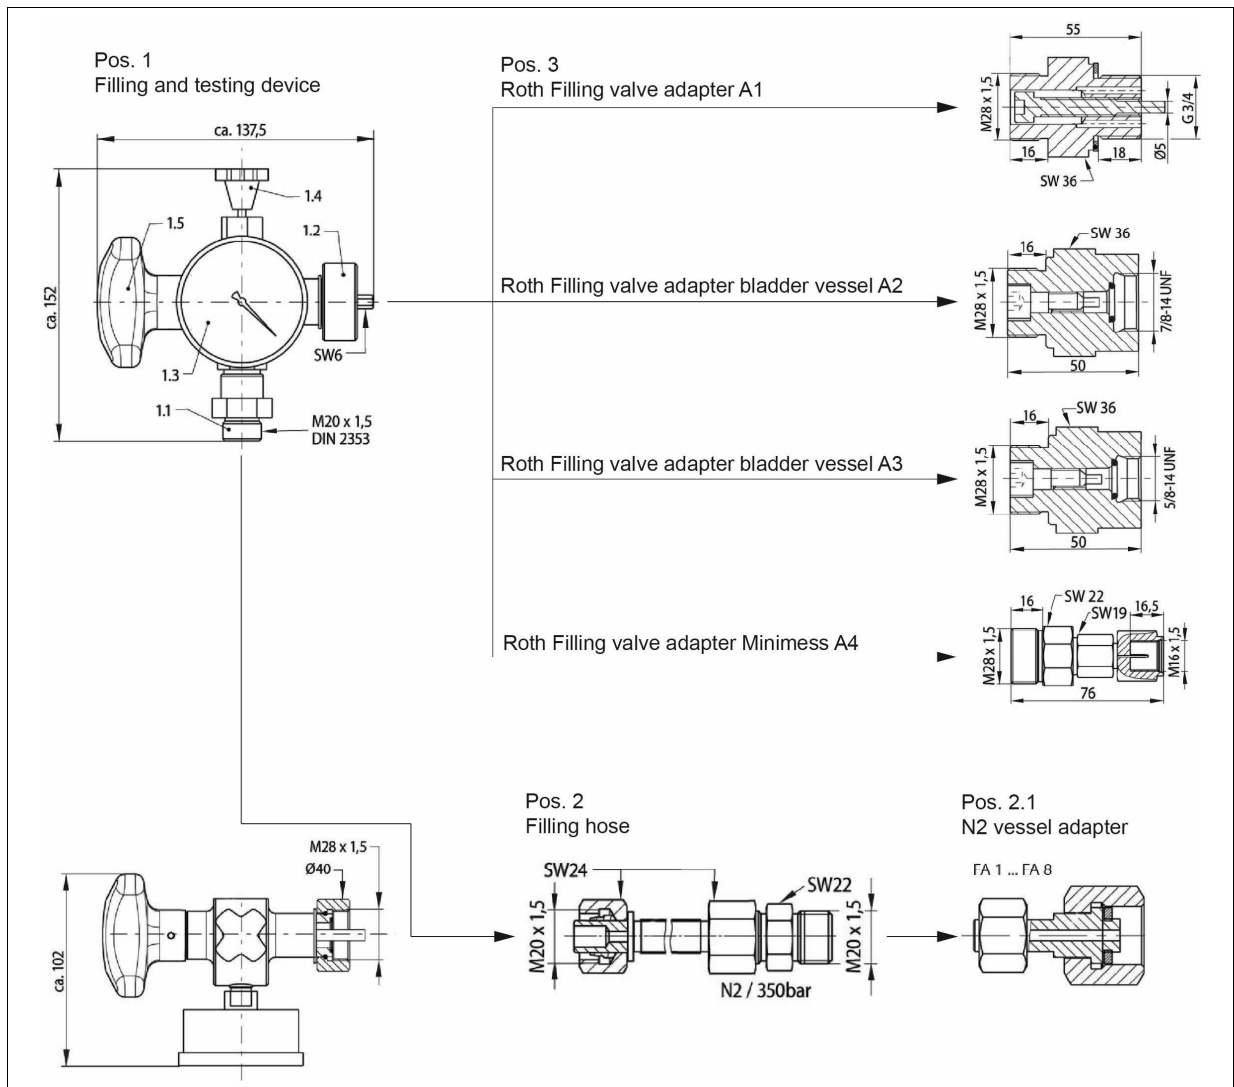

Figure 1-1 Roth filling and testing device
| Figure 1-1 | Roth filling and testing device | 2 |
The filling and testing device (see Fig. 1-1, Pos. 1) may only be operated by trained qualified staff in accordance with the work instruction below.
| Process step | with Roth filling valve adapters A1, A2, A3 (see Fig. 1-1, Pos. 3) | with Roth filling valve adapter Minimes A4 (see Fig. 1-1, Pos. 3) | without filling valve adapter |
| 2. | Rotate the spindle of pressure relief valve (Fig. 1-1, Pos. 1.4) on the filling and testing device (Fig. 1-1, Pos. 1) clockwise up to the stop (closed). | | |
| 5. | Connect the corresponding filling hose connection (Fig. 1-1, Pos. 2) to the connection point of the filling and testing device. | | |
| 6. |  <p>Connect the other end of the filling hose (Fig. 1-1, Pos. 2) to the connection of the N2 vessel. You will need the corresponding N2 vessel adapter FA1 ... FA8 to do this (Fig. 1-1, Pos. 2.1).</p> <p>Check the filling hose (Fig. 1-1, Pos. 2) for damages every time before filling. Take appropriate safety precautions to prevent any danger should the hose rupture. You may, for instance, run a tensioned steel cable parallel to the filling hose, joined to the hose in several places. Please note that the max. filling hose service life of ca. 6 years should not be exceeded.</p> | | |
| 7. | Rotate the spindle (Fig. 1-1, Pos. 1.5) clockwise up to the stop to open the filling valve adapter. The pressure equipment can then be filled with N2 or the N2 pressure tested. | The pressure equipment can then be filled with N2 or the N2 pressure tested. | Turn the spindle (Fig. 1-1, Pos. 1.5) anticlockwise up to the stop to open the filling valve. The pressure equipment can then be filled with N2 or the N2 pressure tested. |
| Process step | with Roth filling valve adapters A1, A2, A3 (see Fig. 1-1, Pos. 3) | with Roth filling valve adapter Minimess A4 (see Fig. 1-1, Pos. 3) | without filling valve adapter |
| 8. | Keep the N2 cylinder valve open until the pressure gauge shows the required pre-filling pressure (P_0). With the filling valve open, P_0 may also be read off on the pressure equipment or accumulator systems gas side pressure gauge, if existing. To read P_0 , the N2 vessel adapter (Fig. 1-1, Pos. 2.1) must be closed from time to time. | | |
| 10. | Reduce P_0 to the correct value via the pressure relief valve (Fig. 1-1, Pos. 1.4), should it be too high. The N2 vessel valve must be closed. | | |
| 12. | Turn the spindle (Fig. 1-1, Pos. 1.5) of the filling and testing device anticlockwise up to the stop. This closes the filling valve in the pressure equipment or the accumulator system. | Now unscrew the Minimess filling valve adapter with the filling and testing device from the Minimess filling valve of the pressure equipment. The Minimess filling valve will close automatically as it is unscrewed. The residual pressure in the filling device and in the filling hose (Fig. 1-1, Pos. 2) will audibly escape via the Minimess filling valve adapter, since manual pressure relief via the pressure relief valve (Fig. 1-1, Pos. 1.4) is not possible here. Depending on the length of the filling hose, this procedure may take a while. Only loosen the screwed connection completely after full release of the pressure. | Rotate the spindle (Fig. 1-1, Pos. 1.5) of the filling and testing device clockwise, to its stop. This closes the filling valve in the pressure equipment or the piston accumulator system. |
| 13. | Open the pressure relief valve (Fig. 1-1, Pos. 1.4) to release the pressure in the filling and testing device. | - | Open the pressure relief valve (Fig. 1-1, Pos. 1.4) to release the pressure in the filling and testing device. |
- Carry out steps 11 to 13. Unscrew the N2 vessel adapter (see Fig. 1-1, Pos. 2.1) from the filling hose (Fig. 1-1, Pos. 2.1) on the empty N2 cylinder and attach the filling hose to a full N2 vessel.
| 2. | Slowly rotate the spindle (Fig. 1-1, Pos. 1.5) clockwise. The filling valve in the pressure equipment will open and N2 flows into the filling and testing device. | - | Slowly rotate the spindle (Fig. 1-1, Pos. 1.5) anticlockwise. The filling valve in the pressure equipment will open and N2 flows into the filling and testing device. |
| 3. | Rotate the pressure relief valve (Fig. 1-1, Pos. 1.4) anticlockwise to release N2. | | |
| 4. | Make sure that the pressure equipment of the gas side is depressurised. The pressure gauge will in this case show 0 bar. Leave the pressure relief valve (Fig. 1-1, Pos. 1.4) in open position. | | |